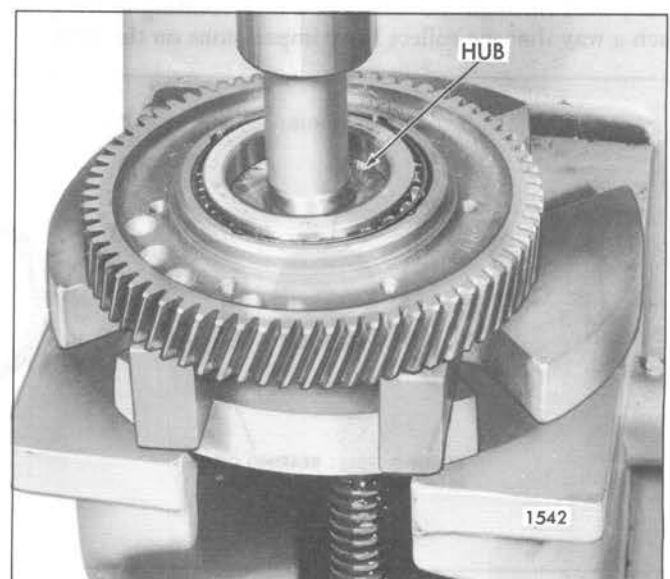

Fig. 3 - Pressing Hub Out of Idler Gear Bearing
To minimize oil leakage into the flywheel housing, a new idler gear spacer (dummy hub) is now being used in those engines not equipped with an integral idler gear spacer type flywheel housing (Fig. 3).
3. Place the idler gear assembly in an arbor press, with the inner bearing cone supported on steel blocks as shown in Fig. 3. While rotating the idler gear assembly, press the hub out of the bearing. Remove the gear assembly from the arbor press and remove the bearing cones and spacer rings. Tap the bearing cups from the idler gear by using a brass drift alternately at the four notches provided around the shoulder of the gear.